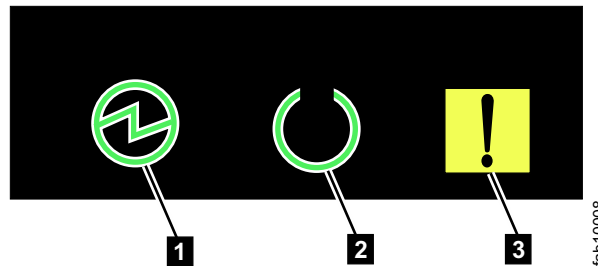

Figure 57. Node canister LEDs
2. From the rear of the control enclosure, check the LEDs on each node canister (see Figure 57).